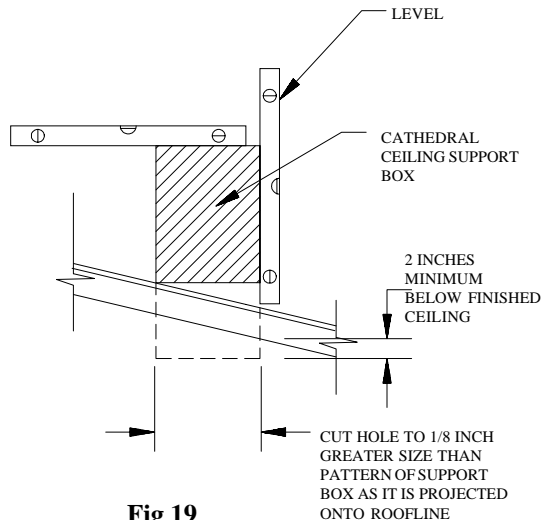

Fig 19
Step 4. Lower the Support Box through the hole in the roof until each side of the bottom of the Support Box protrudes at least 2-inches below the ceiling. (Fig 19). Align the Support Box both vertically and horizontally with a level. Temporarily